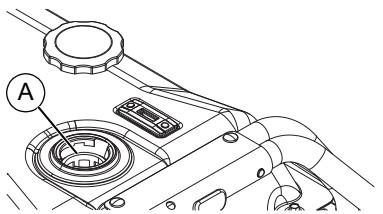

Figure 2-8. Add Recommended Fuel
- Slowly add recommended fuel. Do not fill above red fuel indicator (A). See **Figure 2-8**.